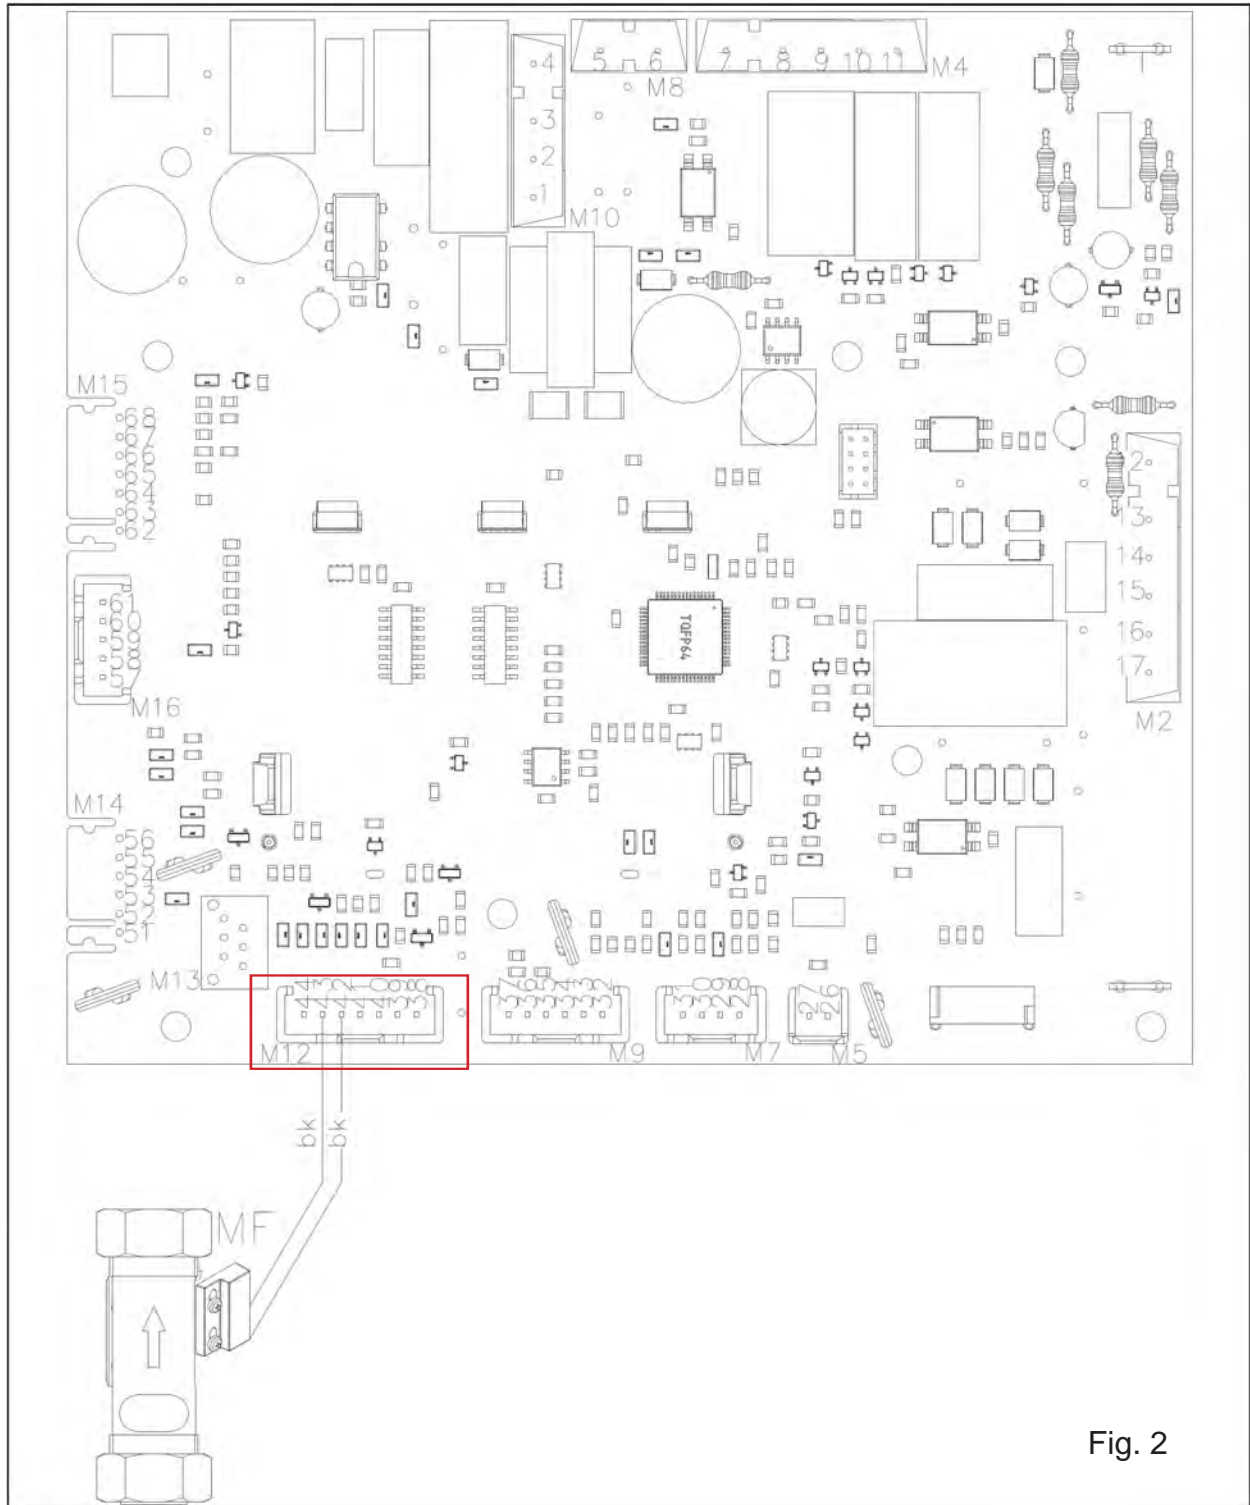

Fig. 2
18. Route the Flow Switch wires through the rubber grommet in the bottom plate of the appliance and proceed with the Flow Switch electrical connection to the main circuit board as shown in fig.2.